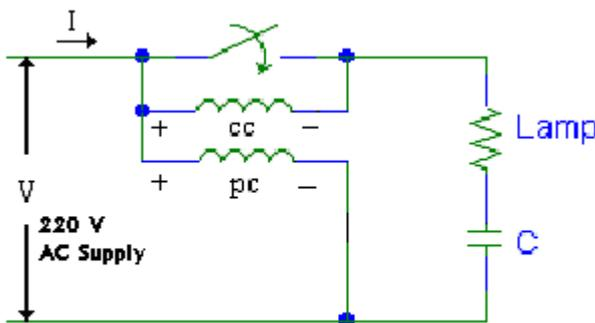

Figure 1:
1. Connect the circuit in Figure 1 without the wattmeter. Measure  $V$  and  $I$ .